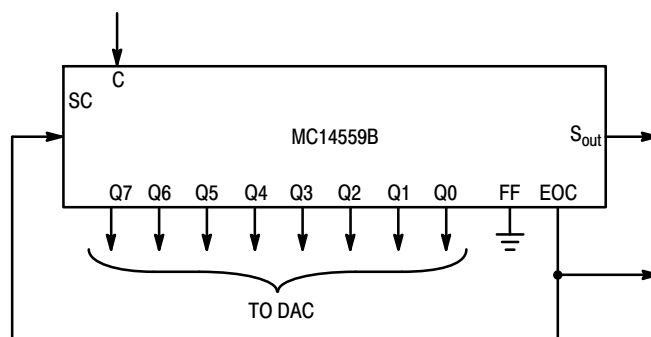

Figure 3. Continuously Cycling 8-Bit ADC
**Continuously Cycling 8-Bit ADC (Figure 3)**